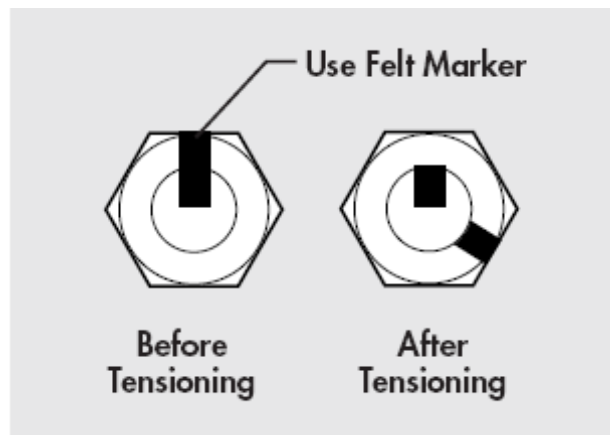

Figure 1-1a:
Step 5. Using a **FELT-TIP MARKER**, mark the nuts and ends of the bolts with a straight line as shown above in **Figures 1-1a** (Bolts **shorter than 4 diameters**) and **1-1b** (Bolts **longer than 4 diameters**)
- **MOVED 1/3 TURN (120°)** as shown in **Figure 1-1a**, for bolts **shorter than 4 diameters** ("After Tensioning")